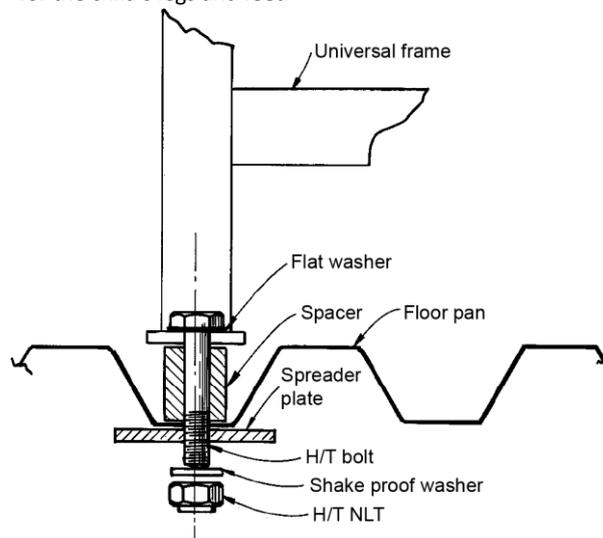

Figure 9: Universal frame attachment
- Utilise spreader plates and spacers to fill in the depth of the vee in corrugated floors (see Figure 9).